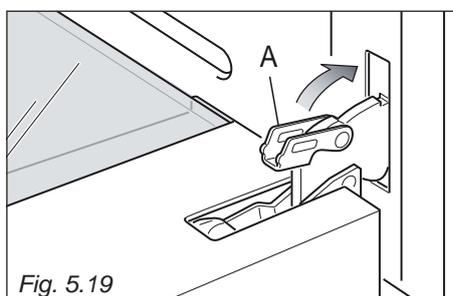

Fig. 5.19
- Unlock the oven door by opening it completely and closing the lever "A" on the left and right hinges (fig. 5.19).